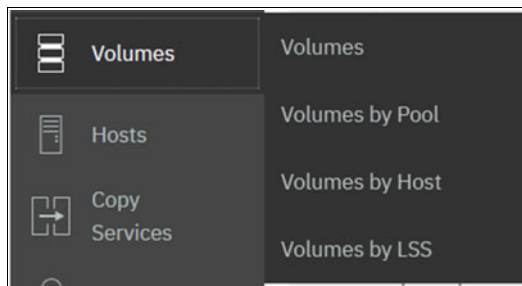

Figure 9-46 Volumes by View
1. From the system window, select the **Volumes** icon. Four options are provided, as shown in Figure 9-46 on page 260: